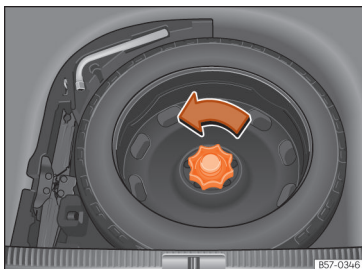

Fig. 235 In the luggage compartment: raised load floor.
- Turn the thumb wheel anticlockwise >>> **Fig. 235**.